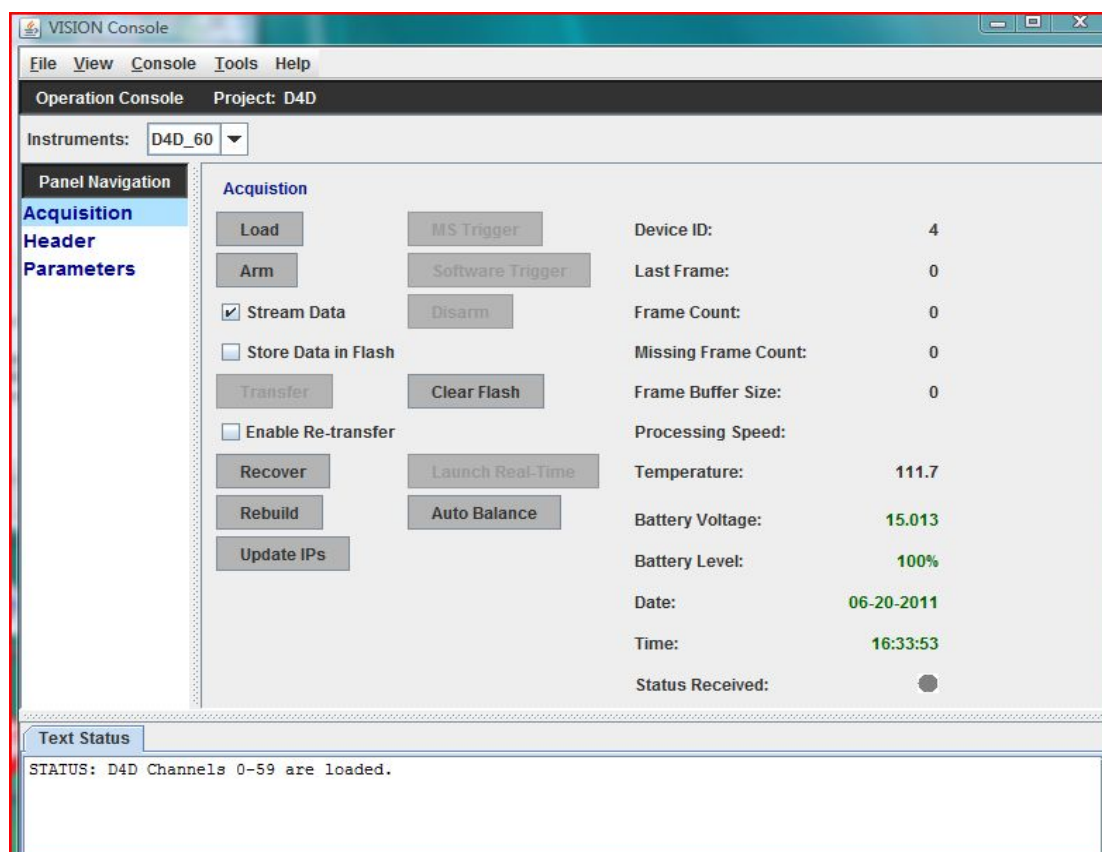

Figure A-13. D4D acquisition panel after load.
g. Once the parameters are set up, the operator can return to the ACQUISITION panel. As with the VHSD, the D4D must be have the parameters loaded by clicking the LOAD button. A message should appear in the test status window when the load is complete. Also, once the load completes, the ARM and AUTO BALANCE button should become active. See Figure A-13.